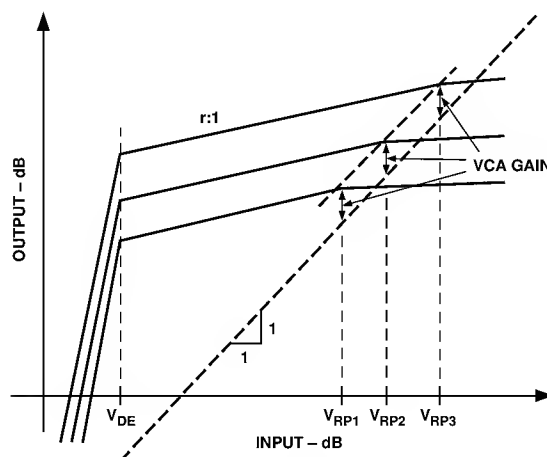

Figure 17. Effect of Varying the Rotation Point
**Rotation Point.** An internal dc reference voltage in the control circuitry, used to set the rotation point, is user-specified, as illustrated in Figure 9. The effect on rotation point is shown in Figure 17. By varying a resistor,  $R_{ROT PT}$ , connected between the positive supply and the ROTATION POINT SET pin (Pin 11),